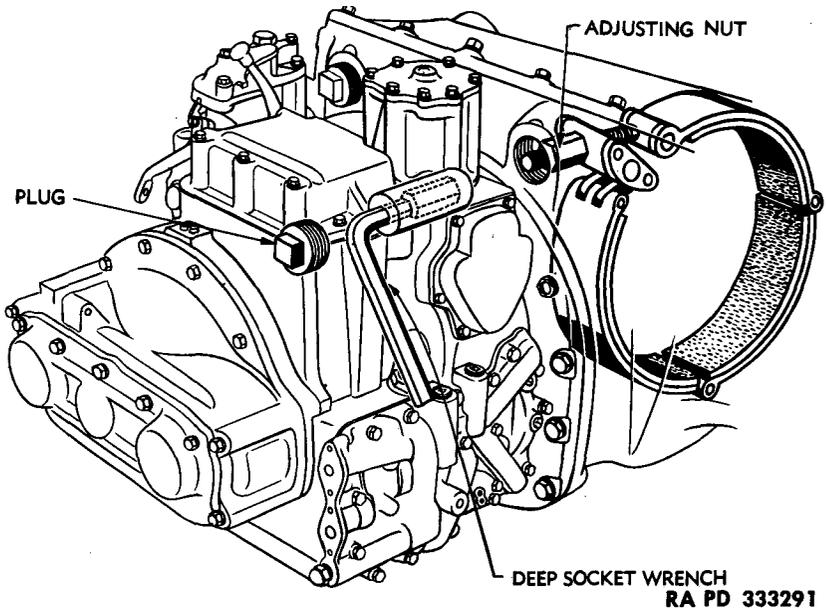

Figure 96 – Adjusting Steering Brake Bands
(2) **ADJUST BAND.** Insert socket wrench through plug hole and engage adjusting nut (fig. 96). Turn adjusting nut one-half revolution clockwise to tighten brake band. **NOTE:** *Brake band adjusting nut has a cylindrical surface on pressure side instead of the usual flat face. It is important that this adjustment be made by half-turns only, so that this cylindrical surface will always be seated firmly against cross pin when adjustment is completed.*